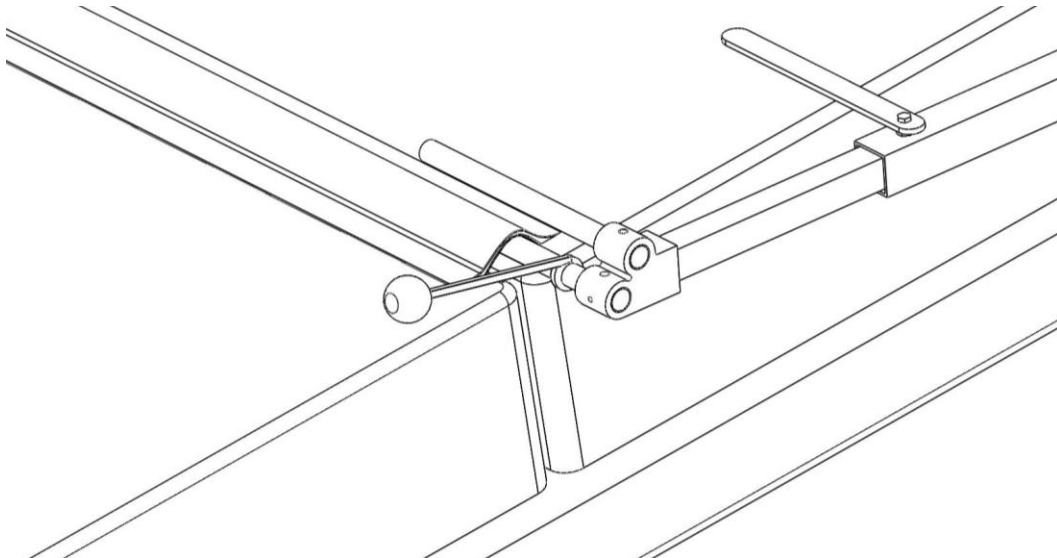

**Figure 14**
14. Fold back the spa cover onto itself, then manually lift the Cover Valet and spa cover to the upright position. You will need at least one person to help hold the cover. With the cover upright, attach the top end of the Regular Gas Shock (cvRS) to the Ball Stud (cvB) on the Pivot Arm (cvCC). See Fig 14.